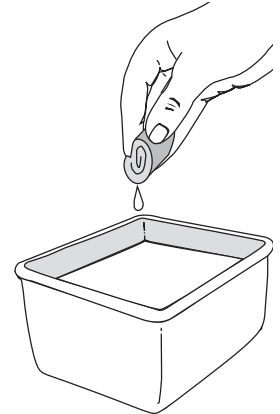

Fig. 36
3. Wash the filter in detergent and water (Fig. 36). Rinse the filter thoroughly. Squeeze out excess water. Allow it to dry completely.